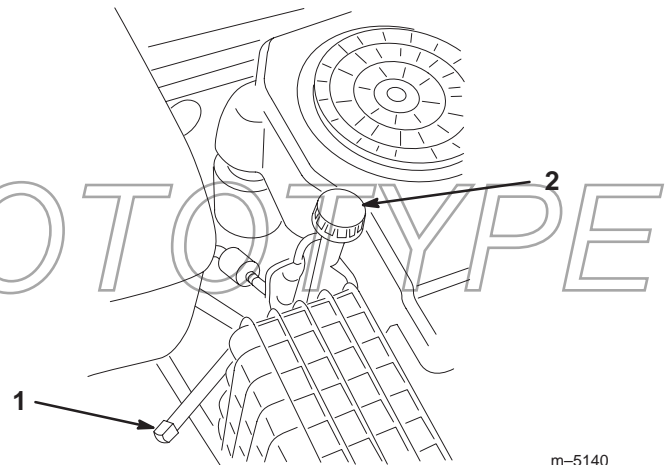

Figure 25
3. Place a pan below the oil drain. Remove the oil drain cap (Fig. 25).
- Clean around the oil dipstick and unscrew the cap (Fig. 25).